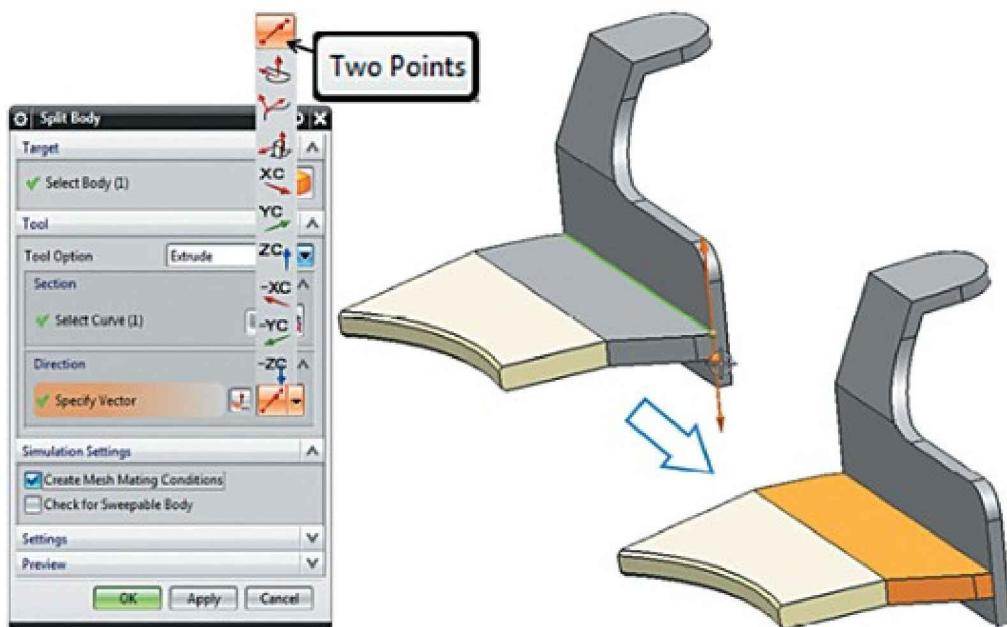

Figure 2.17. Split Body, Tool Options, Extrude
- In the *Section* group select the body edge highlighted in green in Figure 2.17 as the sectional curve.
- In the *Direction* group select *Two Points* in the vector tools drop-down list. Select the points as shown in Figure 2.17.